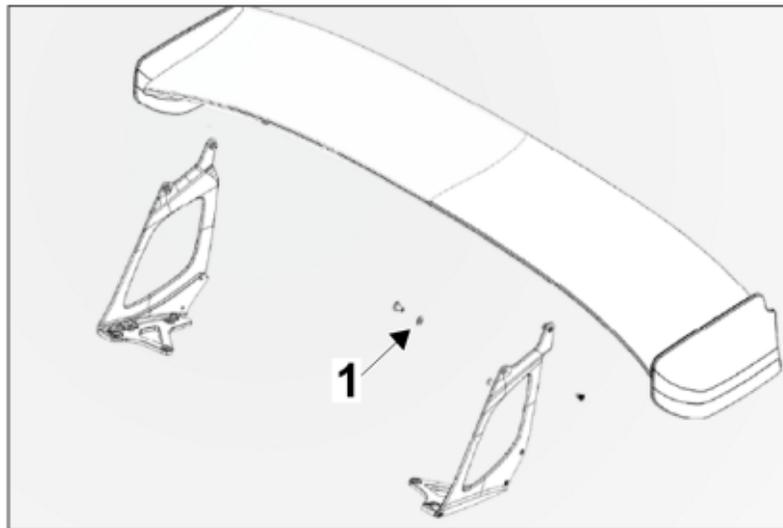

Figure 69
- 44. – **Note:** Make sure to position the standard spacers ⇒ *Figure 69 -1-* between the wing and wing support connection during assembly. Failure to observe this can lead to damage.